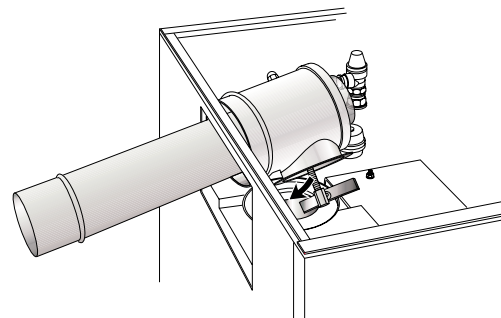

Fig. 3
10. **All models except Vortex** – Pass the boiler connector section through the hole in the casing and locate the T bar through the flue outlet hole (Fig. 3).